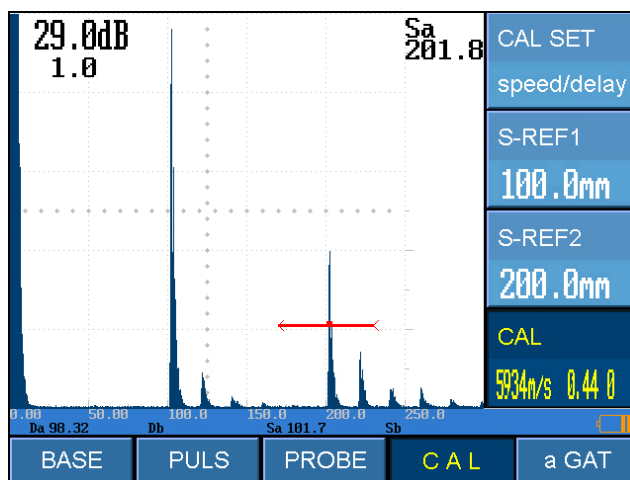

Figure 6-3 Move Gate A to Capture the Second Bottom Echo
- (5) Move Gate A to capture the second bottom echo (refer to Figure 6-3). Enter the CAL submenu, press [+] key to confirm echo 2 (after "calibration completed" being displayed in the screen, "1" is turned to "0" in CAL submenu), then the delay calibration value will display in CAL submenu and also in P-DELAY submenu.